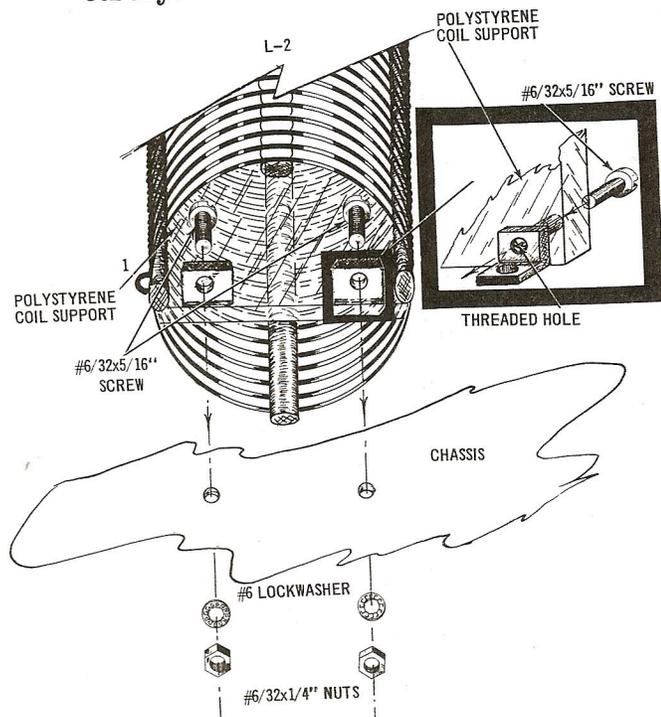

Figure 6. Coil Mounting Detail.
35. Attach the two threaded mounting feet to the coil support of coil L-2 as per Figure 6. Use two 6-32x5/16" screws and tighten securely.